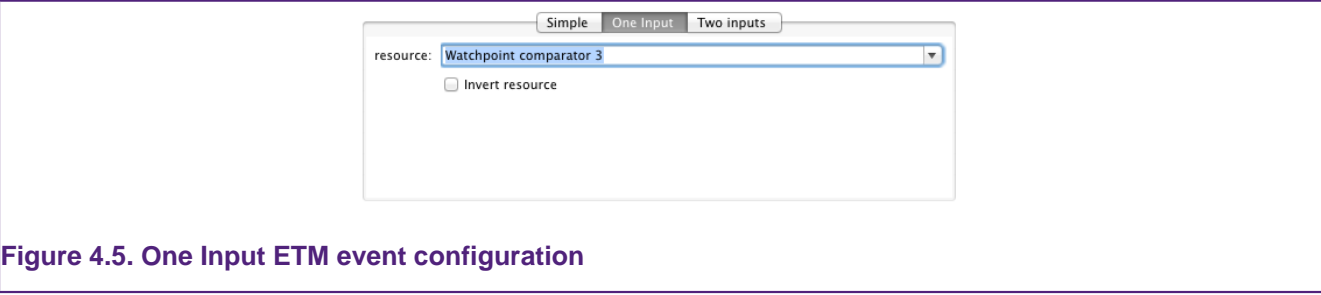

Figure 4.5. One Input ETM event configuration
- To use a single event resource select the **One Input** tab. An event resource can be chosen from the drop-down and the event will be true when the event resource is true. Checking the **Invert resource** box will cause the Event to be true when the event resource is false, and visa-versa. See Figure 4.5.